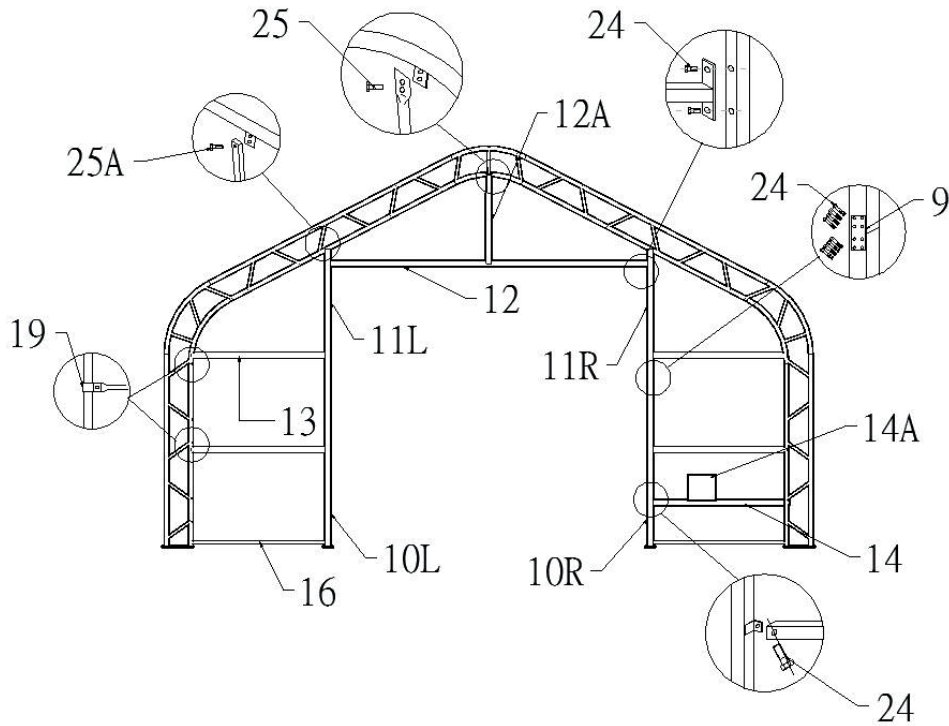

Figure 6: Front and Back door
1. Figure 6 shows to assembly the front and back walls' frame.